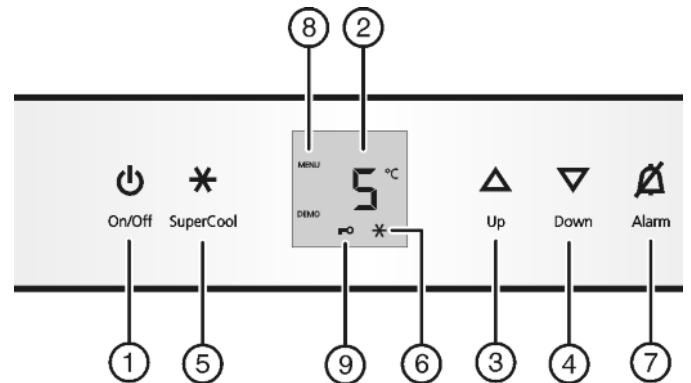

Fig. 2
- ▶ Press On/Off button Fig. 2 (1).
- ▶ To activate the setting mode: press SuperCool button Fig. 2 (5) for about 5 s.
- ▷ The menu symbol Fig. 2 (8) shines.
- ▶ Briefly press the SuperCool button Fig. 2 (5) to confirm.
- ▶ to activate the child lock, briefly press the SuperCool button *Fig. 2 (5)*.
- ▷ The child lock symbol *Fig. 2 (9)* shines. **c** flashes in the display.
- ▶ to deactivate the child lock, briefly press the SuperCool button *Fig. 2 (5)*.
- ▷ The child lock symbol *Fig. 2 (9)* goes out. **c** flashes in the display.
- ▶ To deactivate the set-up mode: press On/Off button *Fig. 2 (1)*.
- ▶ Press alarm button *Fig. 2 (7)*.
- ▶ For a higher temperature setting: press Up button *Fig. 2 (3)*.
- ▶ For a lower temperature setting: press Down button *Fig. 2 (4)*.
- ▶ Briefly press SuperCool button *Fig. 2 (5)*.
- ▷ The SuperCool symbol *Fig. 2 (6)* lights up in the display.
- ▷ The SuperCool symbol *Fig. 2 (6)* goes out in the display.